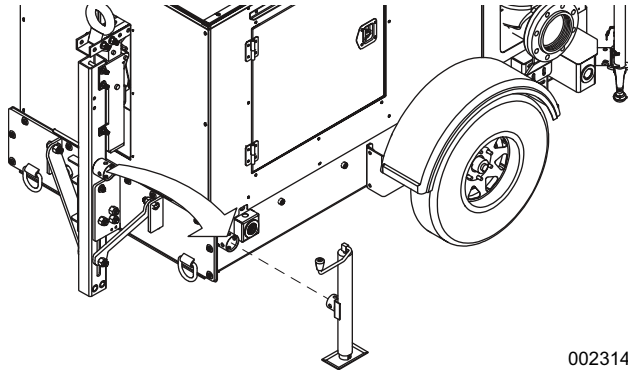

Figure 2-7. Install Tongue Jack
1. See **Figure 2-7**. Move the front jack from the tongue to the location shown and lower the jack.